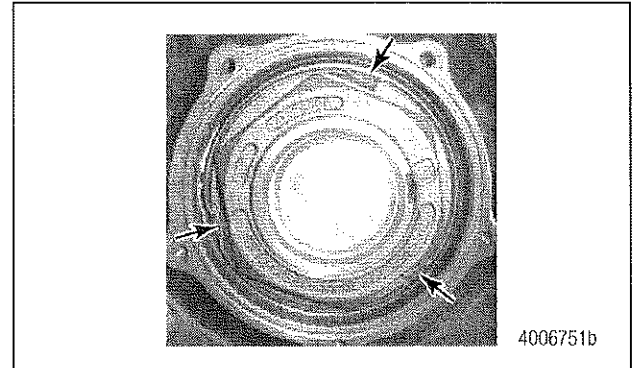
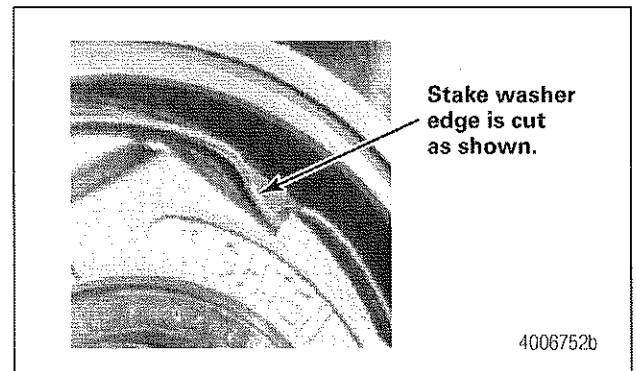

Figure 3
Figure 4
6. Use a hammer and staking tool (part number AM21225831) to stake the stake washer to the spindle nut in **three** positions. Bend the washer to the stake profile as shown. Figure 3 and Figure 4.